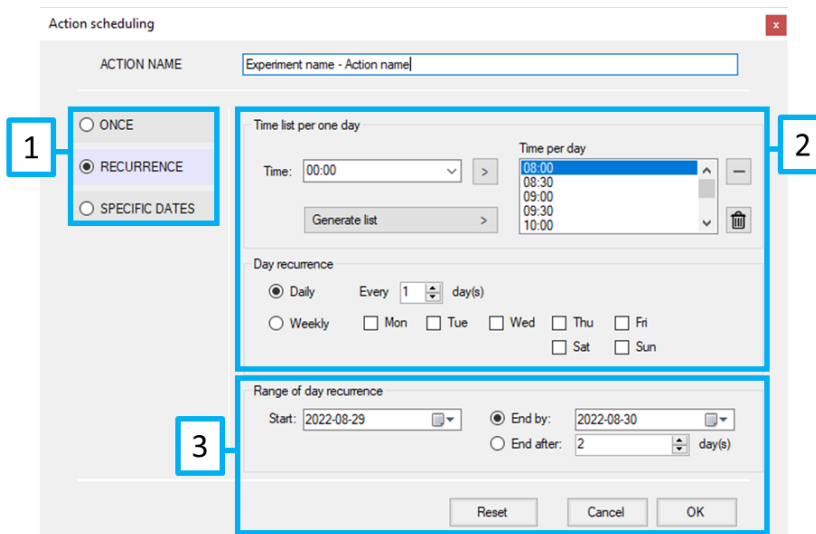

Fig. 18 Option Recurrence in Action Scheduling window
*Recurrent action* (Fig. 17-2, Fig. 18) – recurrence is set for repeated starts of the same action and can range from minutes to months. Type a time value in the *Time* textbox (Fig. 18-2) and add the time point to the *Time per Day* list of time points with the *move (>)* button. Remove the selected points with the *minus (-)* button. Clear the list with the *trash bin* button.